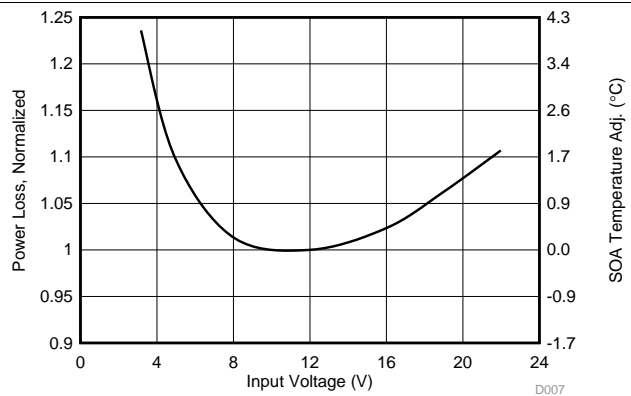

Figure 6. Normalized Power Loss vs Input Voltage
- Normalized power loss for input voltage ≈ 1.01 (Figure 6)
- SOA adjustment for input voltage ≈ 0.14°C (Figure 6)